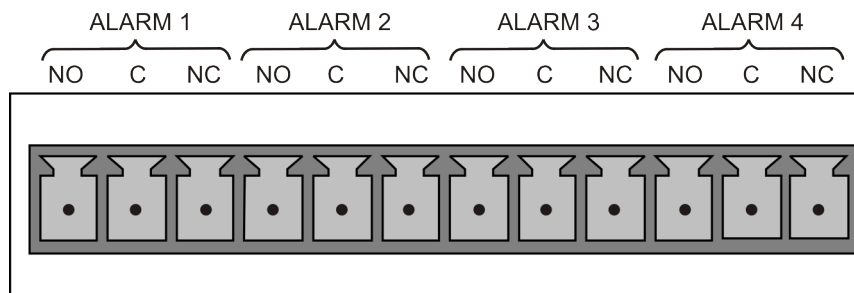

Figure 2-9. Concentration Alarm Relay
The concentration alarm option provides four (4) “dry contact” relays on the rear panel (Figure 2-9) , each with 3 pins: Common (C), Normally Open (NO), and Normally Closed (NC). The Relays can be mapped to reflect various internal instrument conditions and states. ConFigure these outputs through the Setup>Digital Outputs menu (Section 2.5.7) under MB Relay [1 thru 4].